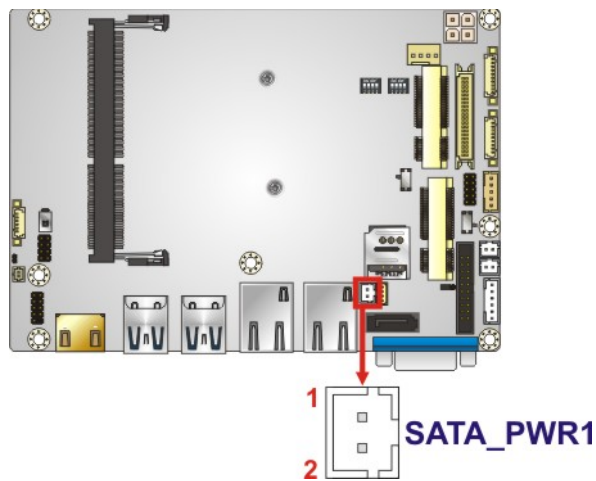

Figure 3-3: 5 V SATA Power Connector Location
- CN Location:     See **Figure 3-3**